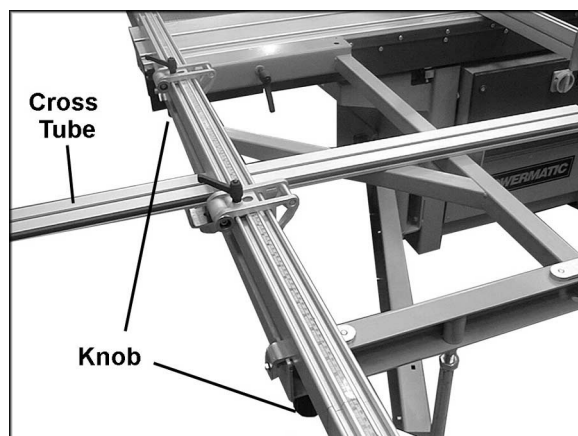

Figure 8
1. The crosscut table has four holes allowing the fence to be placed in two positions: at the left or right of the crosscut table. Figure 8 shows the fence in the left set of holes.